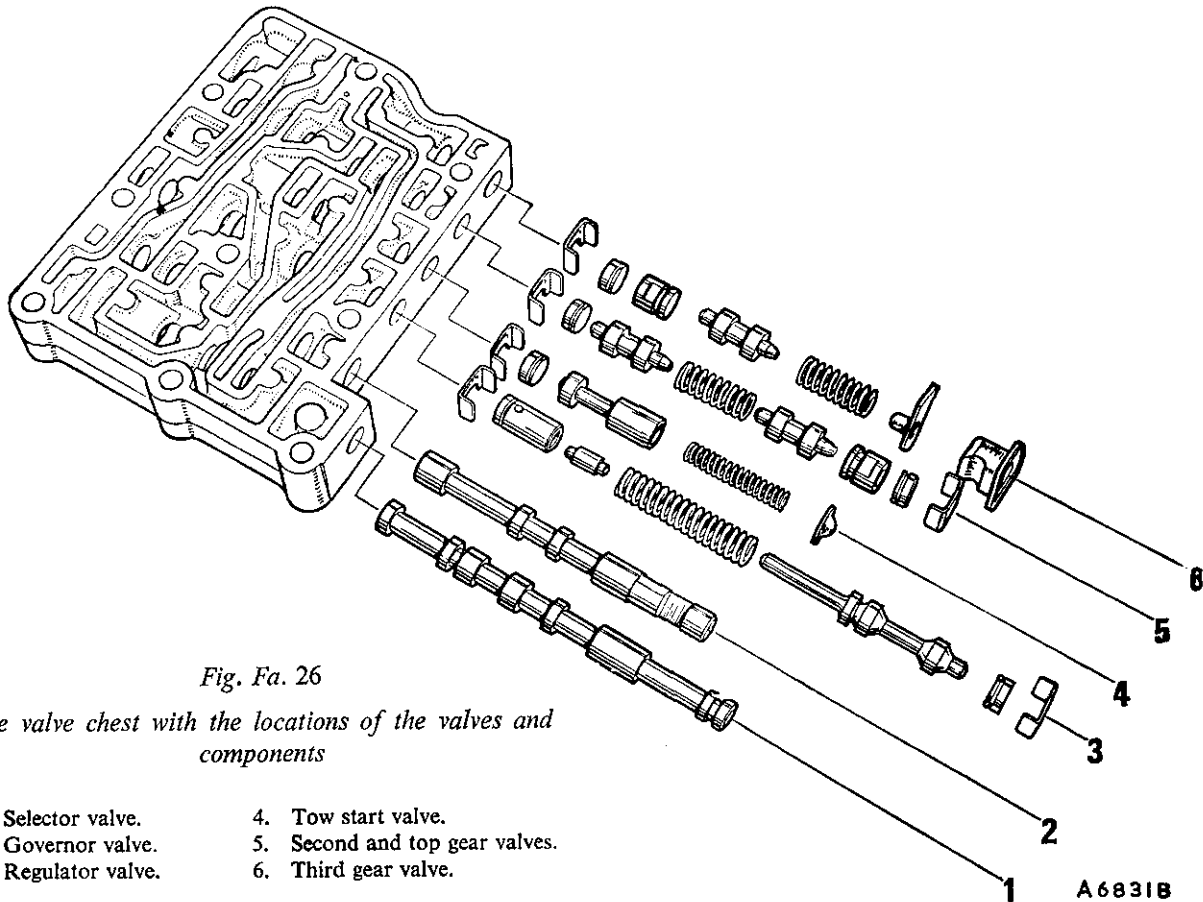
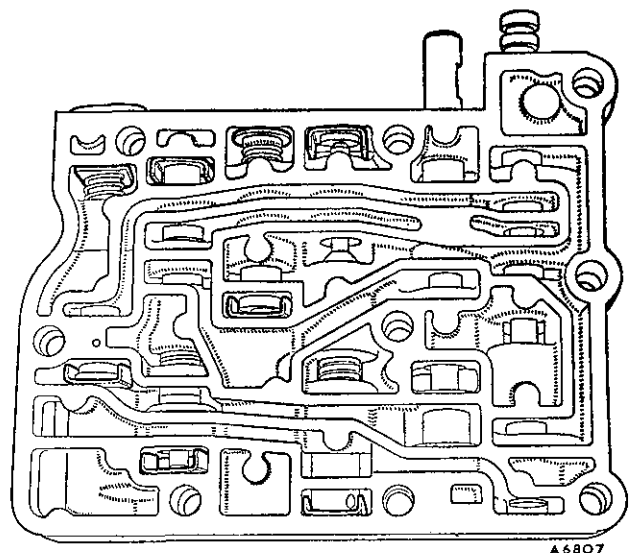

Fig. Fa. 26
Fig. Fa.27
- (20) Reassemble each valve assembly in the reverse order of dismantling (see Fig. Fa.26). Check that the 'C' clips and plugs are correctly located in the valve chest (see Fig. Fa.27).